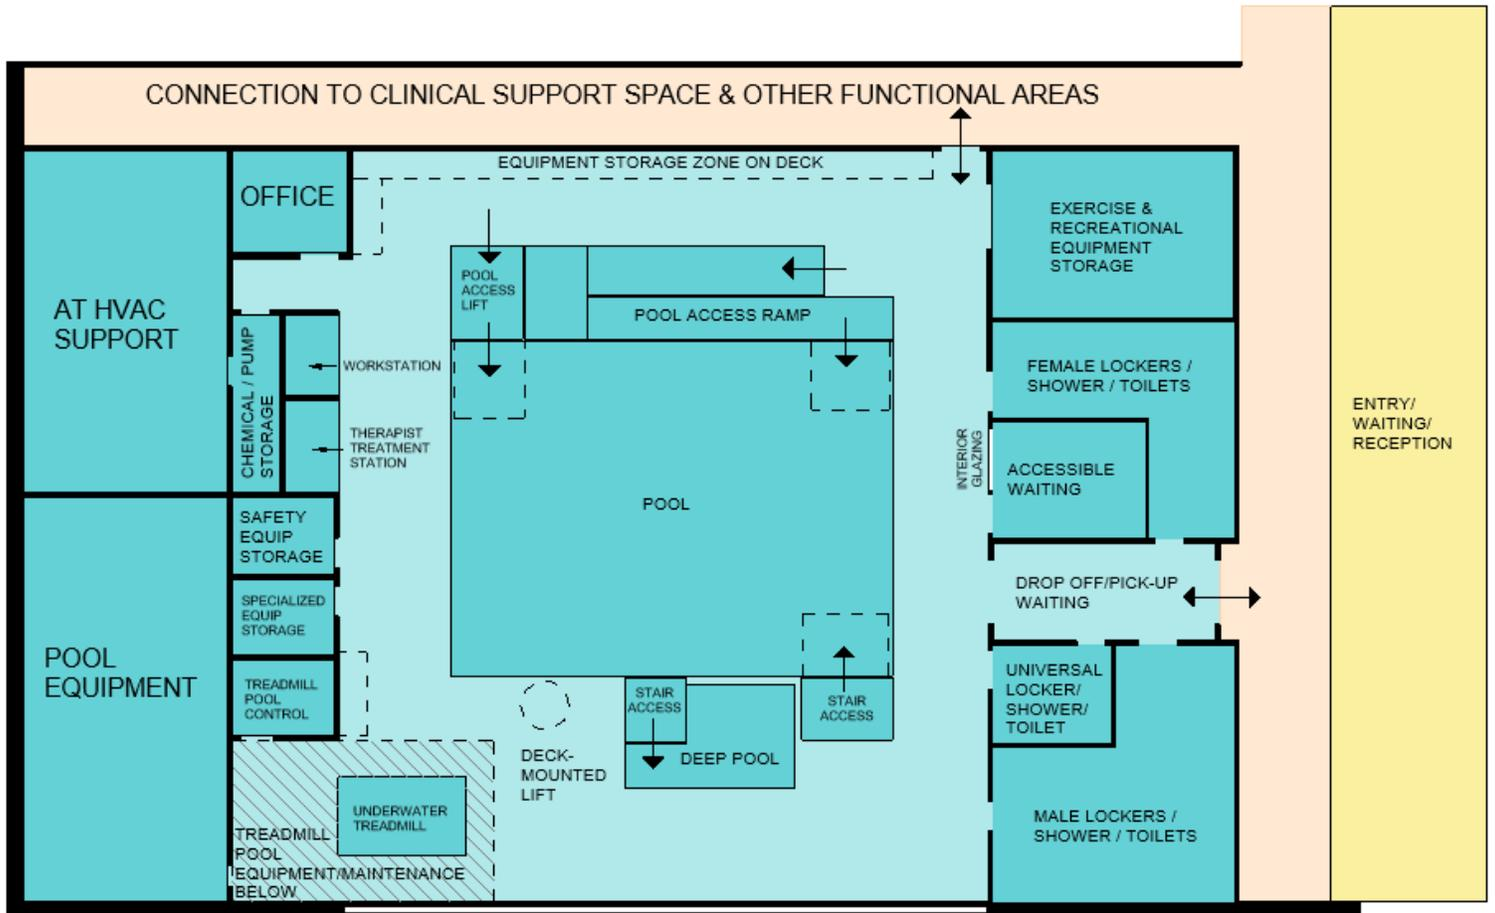

Figure 33 Aquatic Therapy Area Layout
Figure 33 Aquatic Therapy (AT) Area Layout on page 2-48 depicts an optimal layout of the AT Area spaces described in this section. Refer to Section 4 Room Templates and Reference Plans for AT Pool layout and contents (4.3.10 AT Pool, PMR Svc [CT171]; AT Treadmill Pool, PMR Svc [CT172]; AT Pool Deck, PMR Svc [CT173]; AT Pool Wheelchair Lift, PMR Svc [CT174]; and AT Treadmill Pool Deck, PMR Svc [CT175]). It is important to note that some design provisions of this area will be site-specific solutions. Features related to safe patient handling, such as the AT Pool Deck width, and those related to Veteran privacy, such as the AT Universal Patient Toilet/Shower/Locker Room, must be followed. However, the “best practice” dimensions, depth, and slope of the AT Pool are not one-size-fits-all, and must account for the AT Pool’s anticipated uses. The ramp configuration in the room template is predicated on the specific design and depth of the Pool and will require modification on a project-specific basis should those features change.
Locker rooms, toilets, and showers are conjoined into a larger space, and separated by gender, as illustrated in the functional diagram (Figure 33) at the end of this section. A third, single-user changing place with a traverse lift – the AT Universal Patient Toilet/Shower/Locker Room – is provided for Veterans requiring additional privacy or assistance.